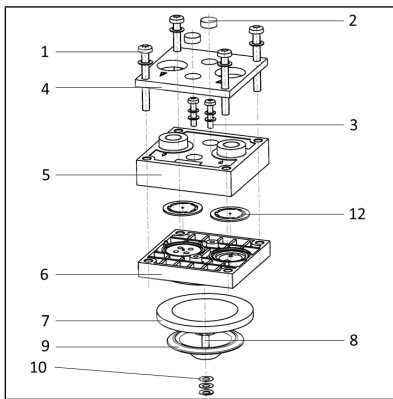

Fig.5 Replacing the structured diaphragm
4. Loosen the four screws ( Fig. 5/1) and remove the pressure plate ( Fig. 5/4).
5. Remove the screw covers ( Fig. 5/2); loosen the two screws ( Fig. 5/3) and remove the head plate ( Fig. 5/5) and the intermediate plate ( Fig. 5/6).